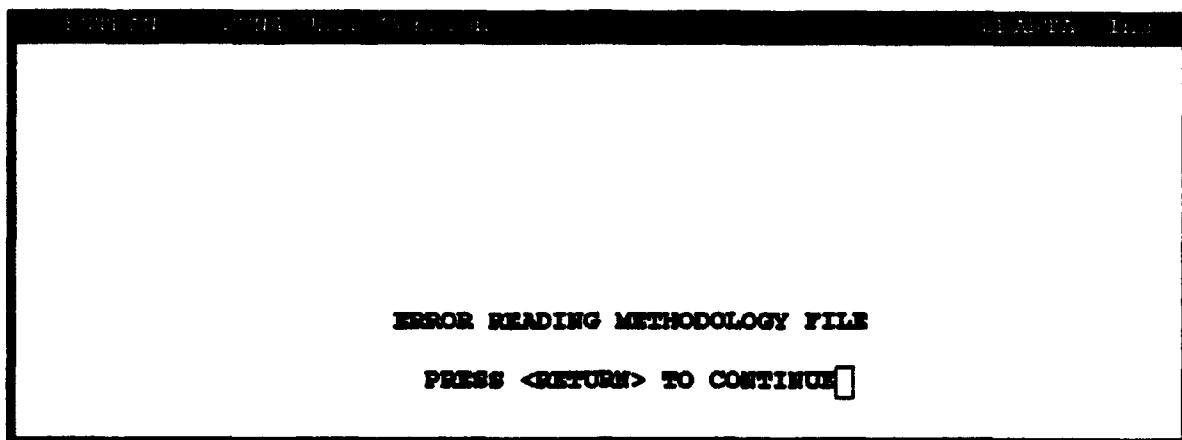
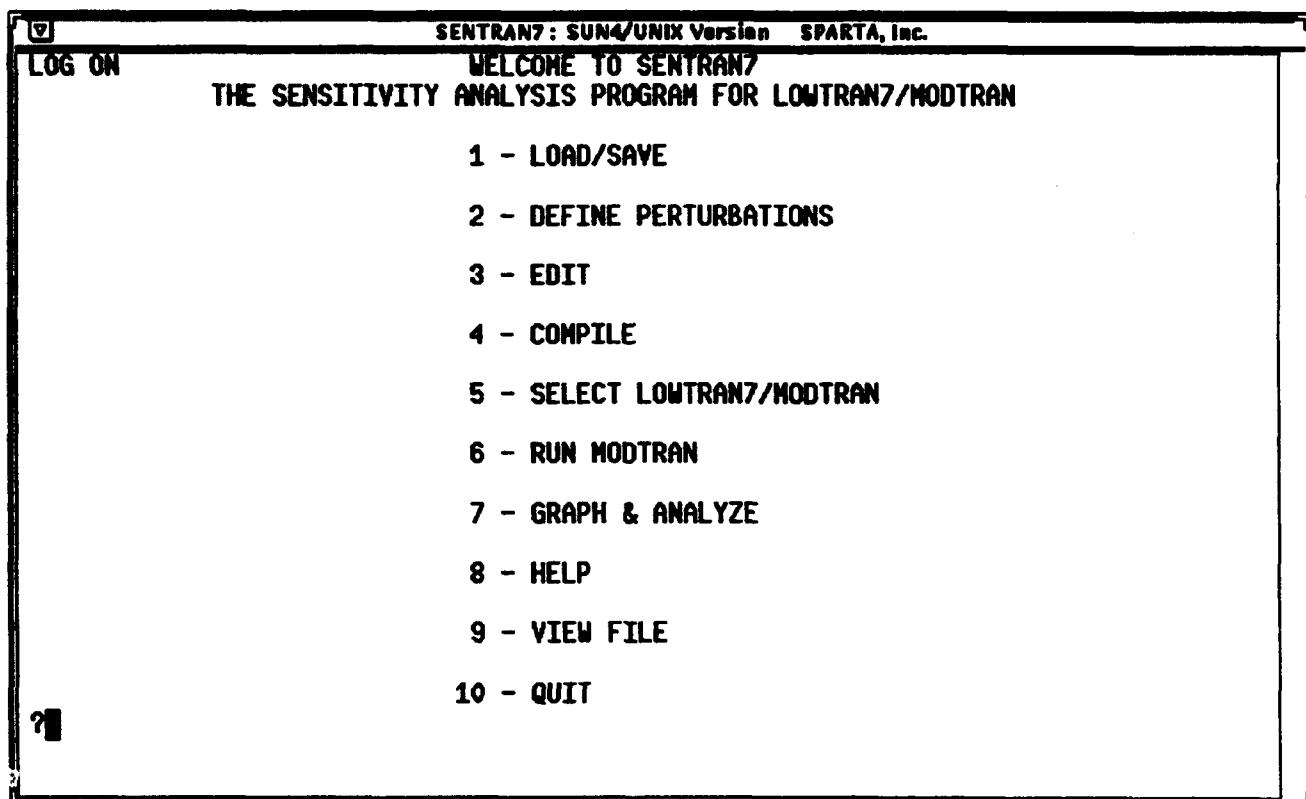

Figure 42. SENTRAN7 Initial Screen Displayed When the *LAST.MTH* Methodology File Does Not Exist
Figure 43. Main Menu of SENTRAN7
Begin by executing the SENTRAN7 executable file on your system. The file, *LAST.MTH*, is loaded into SENTRAN7 immediately upon execution, provided that it exists, and provides a default methodology. A methodology file, such as *LAST.MTH*, contains images of LOWTRAN7 or MODTRAN input parameters (the standard input "cards") and control parameters for their perturbation. When running SENTRAN7, the most recent methodology file generated is always copied into a special file named *LAST.MTH*, which as mentioned above is used by SENTRAN7 at start-up. When SENTRAN7 is executed for the first time, a *LAST.MTH* methodology file may not yet exist. If this is the case the initial screen will look like Figure 42. The program displays an error message in reading the last methodology file. Don't panic! The program will continue with the default parameters set within the software code. Once you hit RETURN, the SENTRAN7 Main Menu will appear, as shown in Figure 43.
- 1) Type '1' at the Main Menu shown in Figure 43 in order to load a methodology file.
- 1) Type either '3' or 'edit' or some substring of edit (such as 'ed') at the Main Menu prompt (see Figure 43) in order to execute the Edit Module of SEN-TRAN7. The screen for editing Card 1 will appear as shown in Figure 46.